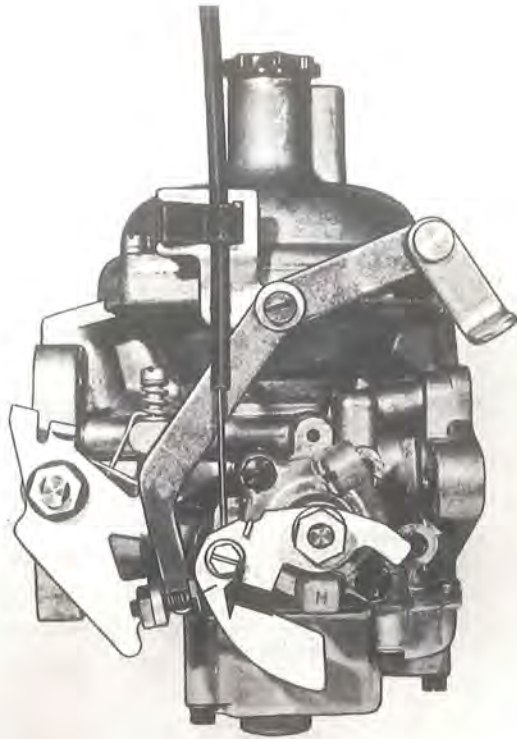

Fig. 2-74. Fast idle
7. Setting the fast idle: Pull out the choke control 23—25 mm (almost 1") so that the mark on the rapid idle cam comes opposite the centerline of the rapid idle screw. See Fig. 2-74.